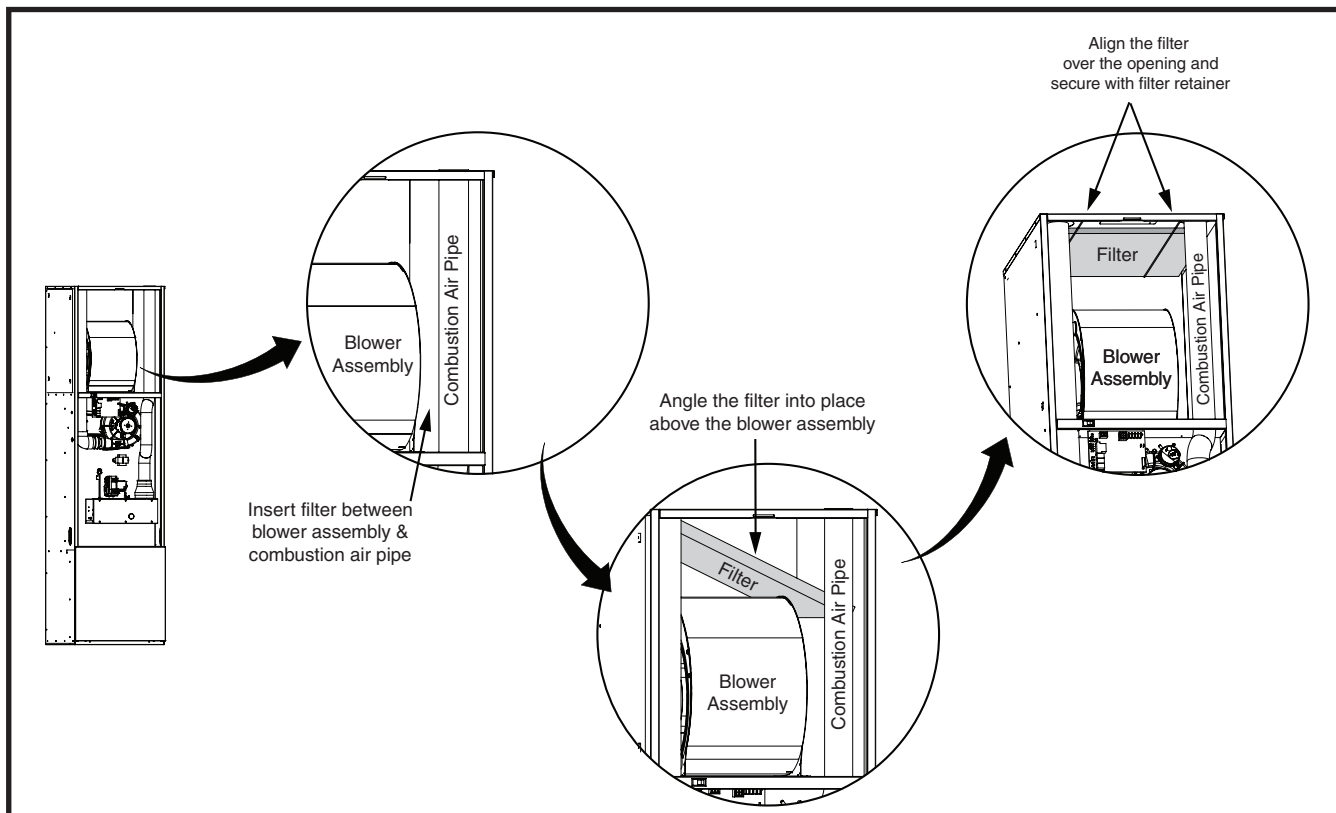

Figure 8. Filter Installation
1. Slide the standard 18"x18"x1" filter into the space between the combustion air pipe and the blower assembly. See Figure 8. **NOTE:** Make sure the airflow arrows on the filter point towards the blower assembly.
4. Evenly align the filter over the opening in the top of the furnace cabinet and position the other end of filter retainer up over the flange in the furnace's top panel. **NOTE:** To properly secure the filter, make sure the filter retainer is properly positioned in the top panel of the furnace. There should be no visible air gaps. The retainer may slide left or right slightly, but must not have any movement between the front and rear. See Figure 8.